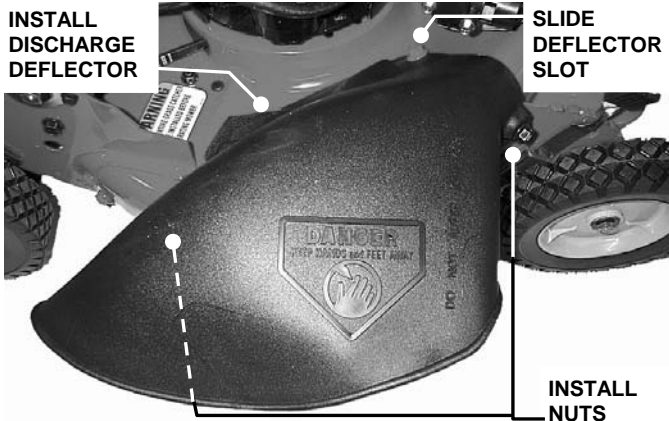

FIGURE 2.17
2. Install discharge deflector and secure to deck using hardware just removed in Step 1. Slot in front edge of discharge deflector must be under nut as shown and both bolts protruding through holes in the side of the deflector. Secure nuts to the side of deflector. Tighten nuts securely. See Figure 2.17.